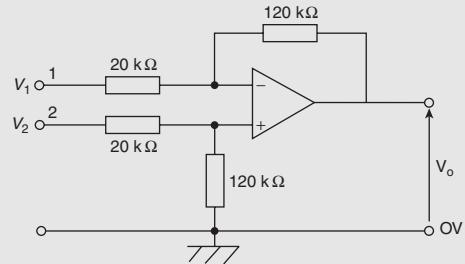

Figure RT5.2
- In the differential amplifier shown in Figure RT5.2, determine the output voltage, V_0 when: